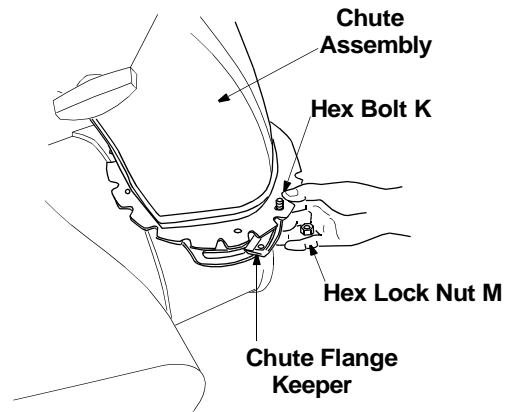

Figure 9
- Place chute flange keepers beneath lip of chute assembly, with the flat side of chute flange keeper facing downward. See Figure 9.
- Insert hex bolt (K) up through chute flange keeper and chute assembly as shown in Figure 9. Secure with hex lock nut (M). After assembling all three chute flange keepers, tighten all nuts and bolts securely. Do not over-tighten.